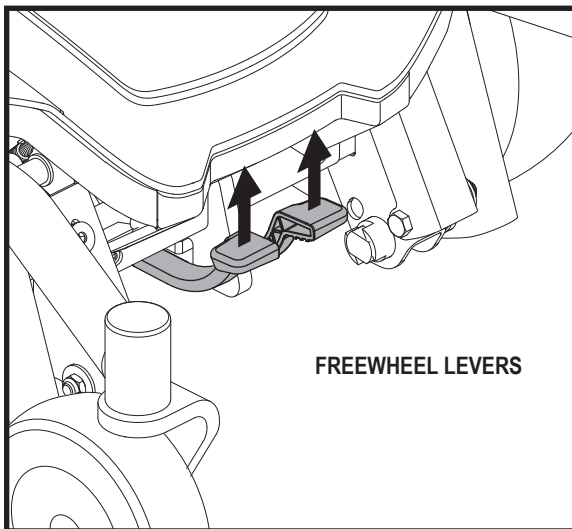

Figure 4. Drive Mode (Drive Engaged)
2. Pull both levers upward to engage the drive motors (drive mode). See figure 4.